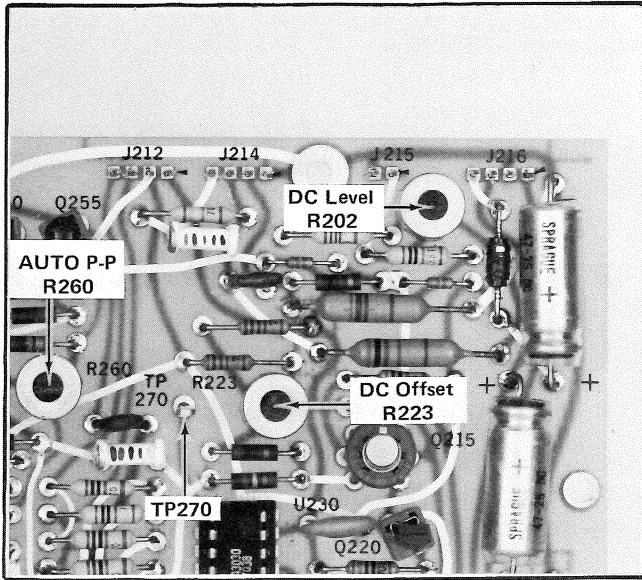

Fig. 5-7. Location of TP270, R223, R202 and R260 on the Sweep Board.
- c. Disconnect the 1X probe from TP108 and connect the probe to TP270 (see Fig. 5-7).
i. Adjust R260 (see Fig. 5-7) for a stable display with + or - polarity selected.